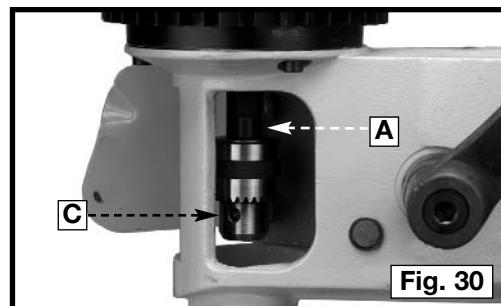
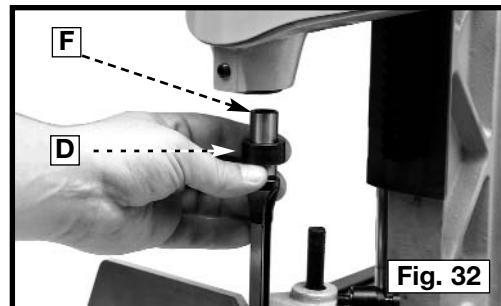

Fig. 30
Fig. 32
When using bits with extra long shanks, remove the extension (A) Fig. 30. Look on the top of the motor and insert a screwdriver into the slot (B) in the end of the armature shaft. Use a chuck key to unscrew and remove chuck (C) Fig. 30 and extension (A). Remove the extension (A) from the chuck (C) and replace the chuck (C) on the end of the motor shaft. You can also use the chisel spacer. Place the chisel spacer (D) Fig. 32 on the chisel shank (F) and insert the chisel into the chisel holder. Tighten the chisel holder securely.